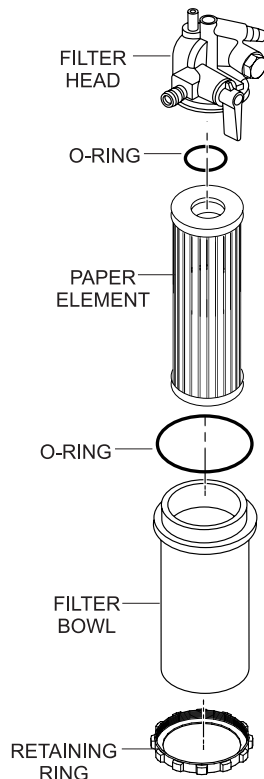

Figure 42. Fuel Filter Disassembly
3. Unscrew the filter bowl (Figure 42) from the fuel filter head.
1. Unscrew the filter bowl from the fuel filter head (Figure 42).